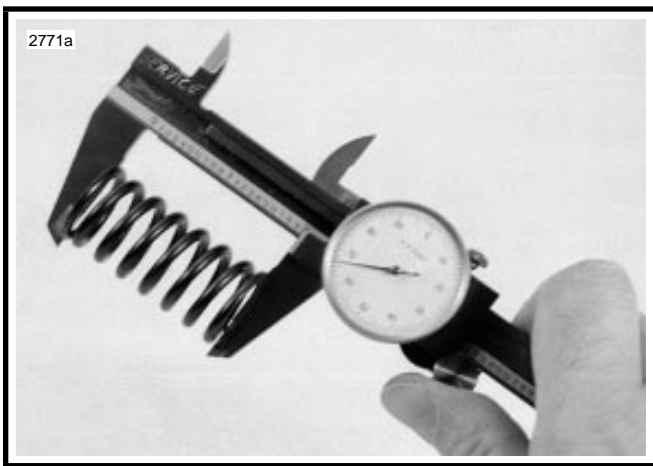

Figure 3-16. Checking Spring Free Length
17. See Figure 3-16. Check free length and compression force of each spring. Compare with SPECIFICATIONS. If spring length is shorter than specification, or if spring compression force is below specification, replace spring.